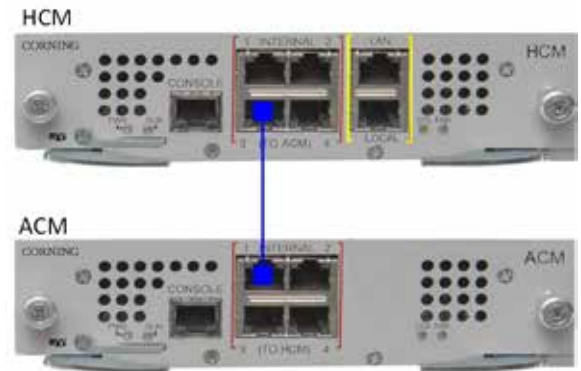

Figure 10. Direct OIU Management Connection
- Referring to Figure 10 — for configurations with one HCM and up to four ACMs (e.g., one HEU and four OIUs), directly connect as follows: